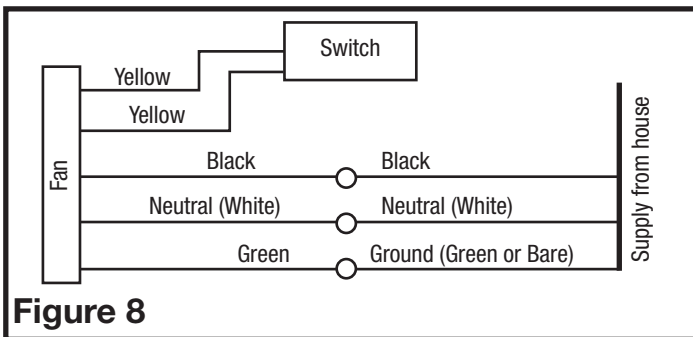

Figure 8
2. **Continuous Ventilation:** For two speed fans wired for continuous ventilation, connect the White wire of the fan to the White (Neutral) wire from the power source. Connect the ground wire from the house to the green wire from the fan housing. Connect the Black wire of the fan to the Black wire (Hot) from the power source. Connect the Hot Yellow wire from the fan to the input of the switch. Connect the second Yellow wire from the fan to the output side of the switch. Closing the switch will change from normal to high speed (Figure 8).